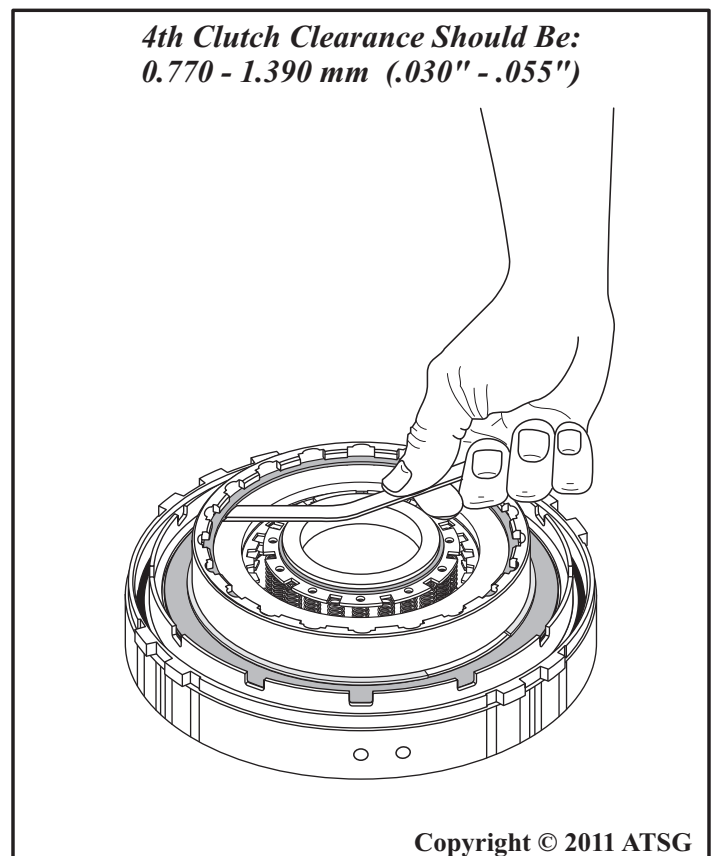

Figure 84
17. Measure with feeler gauge between the snap ring and backing plate, as shown in Figure 84.